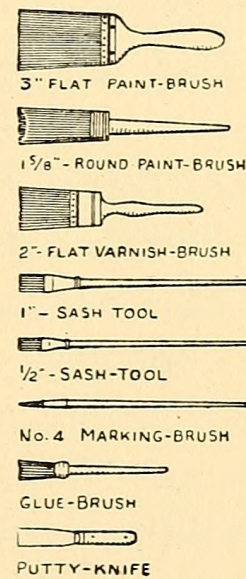

FIG. 91.
**Gluing up Work** is the liquid glue such as you can buy in bottles at the drug store, or in one half pint and larger cans at a hardware store or paint shop. The can form is preferable to the bottle glue as the screw cover seals it up tighter; but when the glue thickens, it is easily thinned by adding a few drops of vinegar and setting the can or bottle for a few minutes in some boiling water. Glue must be thin to work well. Use a brush similar to that shown in Fig. 91 (page 77) with which to apply it.
**Brushes.** Figure 91 shows a number of brushes which will generally answer every purpose of the amateur. The two large brushes will be needed for general painting, the two sash-tools for small work and for getting into corners, and the smallest brush for striping, marking, and lettering. Then there is the medium-sized varnish brush which must be used only for varnishing and shellacking, and the glue brush mentioned in Chapter III. When you are through painting, staining, or varnishing, wash out your brushes in turpentine, or if you expect to use them in the same material within a day or so you may place them in water, which will keep the paint from hardening without injuring the bristles if the brushes are prevented from resting upon the bottom of the receptacle. To support the brushes, bore holes through the handles in the proper places so that when run upon a piece of wire and the wire is laid across the rim of the can or other receptacle, the ends of the bristles will not touch the bottom.
**Shellacking** stained woodwork, as the commoner kind — *orange shellac* — will alter the tone of the stain and probably ruin the work. It is better to buy the white shellac already prepared. Use a 2-inch varnish brush such as is shown in Fig. 91, and if the shellac is thick, dilute it with alcohol just before using it, as it must be thin enough to flow freely over the work. Start at one end of the surface to be covered and work toward the other end, using long, even strokes and being careful not to skip any places and not to go over the same part of the surface twice; uncovered portions and *laps* will show through the finish and give it an uneven appearance.
**Varnishing** is seldom done nowadays by amateur craftsmen in finishing woodwork, but it is necessary as a protection upon surfaces which are subjected to water, so a few pointers are given here. If the wood has an *open* grain, it must first be filled, then given a coat of shellac to form a body for the varnish. Flow the varnish over the surface with a varnish brush such as is shown in Fig. 91, then brush it crosswise of the grain and finish by brushing it lengthwise of the grain. One coat will be sufficient for all ordinary work, but two coats will produce a finer finish. Several days' time should be allowed to elapse between coats. The glossy surface may be cut by
Painters use a putty-knife (Fig. 91) with which to press putty into the crevices of work, but you can use the blade of your jack-knife for the purpose, or a fairly good